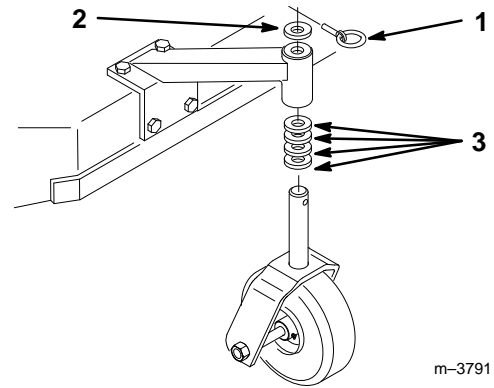

Figure 19
1. Using the height-of-cut chart, adjust the caster spacers to match with the axle hole selected (Fig. 19).
2. Remove clevis pin, slide caster from support and change spacers (Fig. 19).
3. Install caster in support and insert clevis pin (Fig. 19).